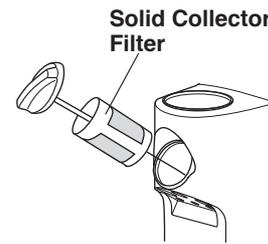

Fig.5-2 Solid Collector Filter
#### (2) Solid Collector (Fig.5-2)